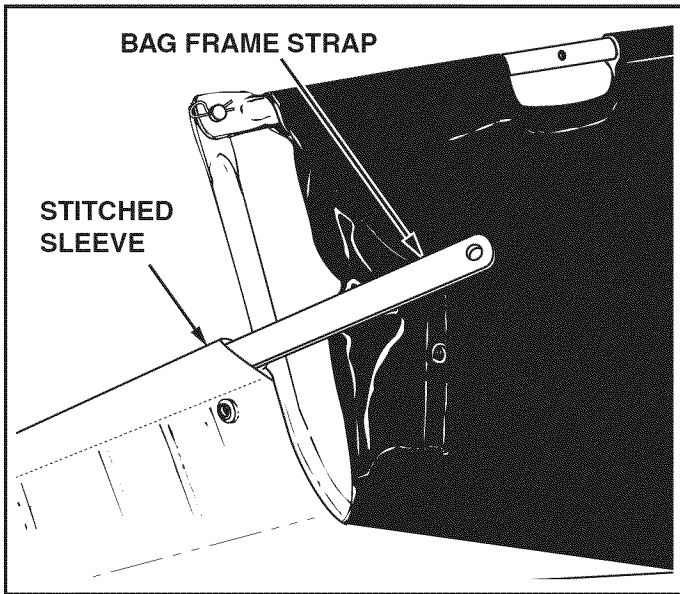

FIGURE 10
- Insert the bag frame strap into the stitched sleeve at the front edge of the bag bottom. See figure 10.